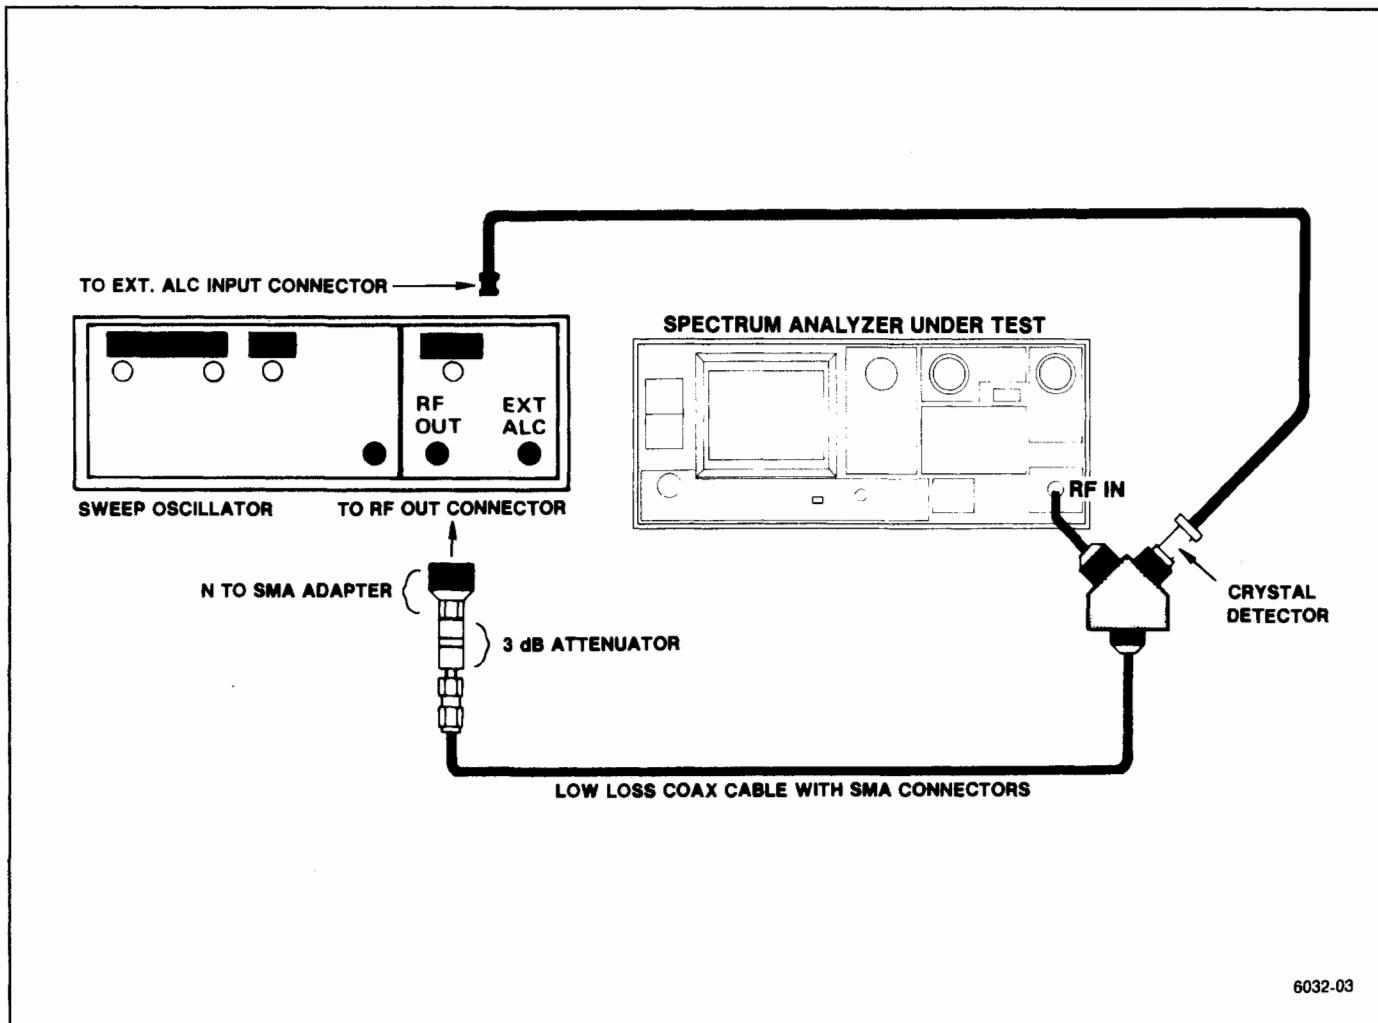

Figure 4-10. Test equipment setup for measuring 0.01 GHz to 21 GHz frequency response.
(3) Set the CAL AMPL adjustment for 5 divisions on the Spectrum Analyzer display. This is the 100 MHz reference. Activate SAVE A to save the reference.
(4) Connect the test equipment as shown in Figure 4-10.
(5) Set the sweep oscillator controls for a cw output that matches the SAVE A display (output frequency of 100 MHz and an output amplitude of approximately -20 dBm).
(6) Deactivate SAVE A. Reset the FREQUENCY to 500 MHz, and SPAN/DIV to 100 MHz, and activate MAX HOLD.
(7) Reset the sweep oscillator controls for a sweep output from 0.01 GHz—1 GHz. Enable single sweep on the sweep oscillator.